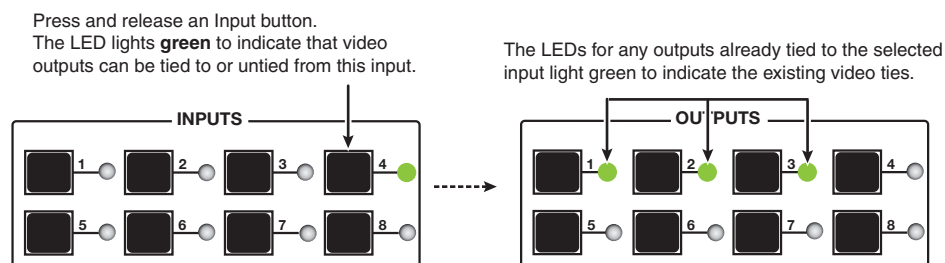

Figure 44. Selecting an Input with Ties (Video)
- **If only video is selected**, its LED lights green to indicate that video outputs can be tied to or untied from this input. Output button LEDs for any outputs already tied to the selected input light green also (see figure 44).